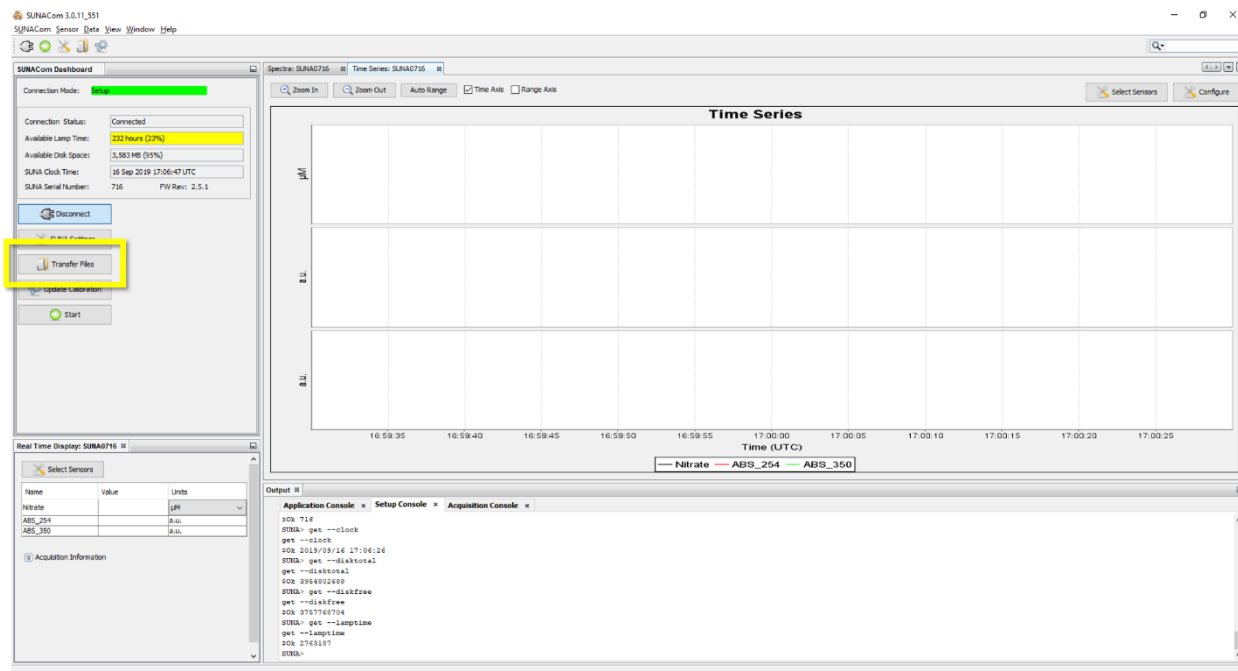

Figure 5. Open the UCI Software and Select Transfer Files
2. Open the UCI Software and Select **Transfer Files** (Figure 5).